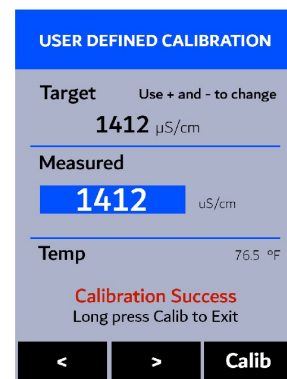

Figure 23.
11. The message “**Calibration Success**” will appear towards the bottom of the display (Figure 23).